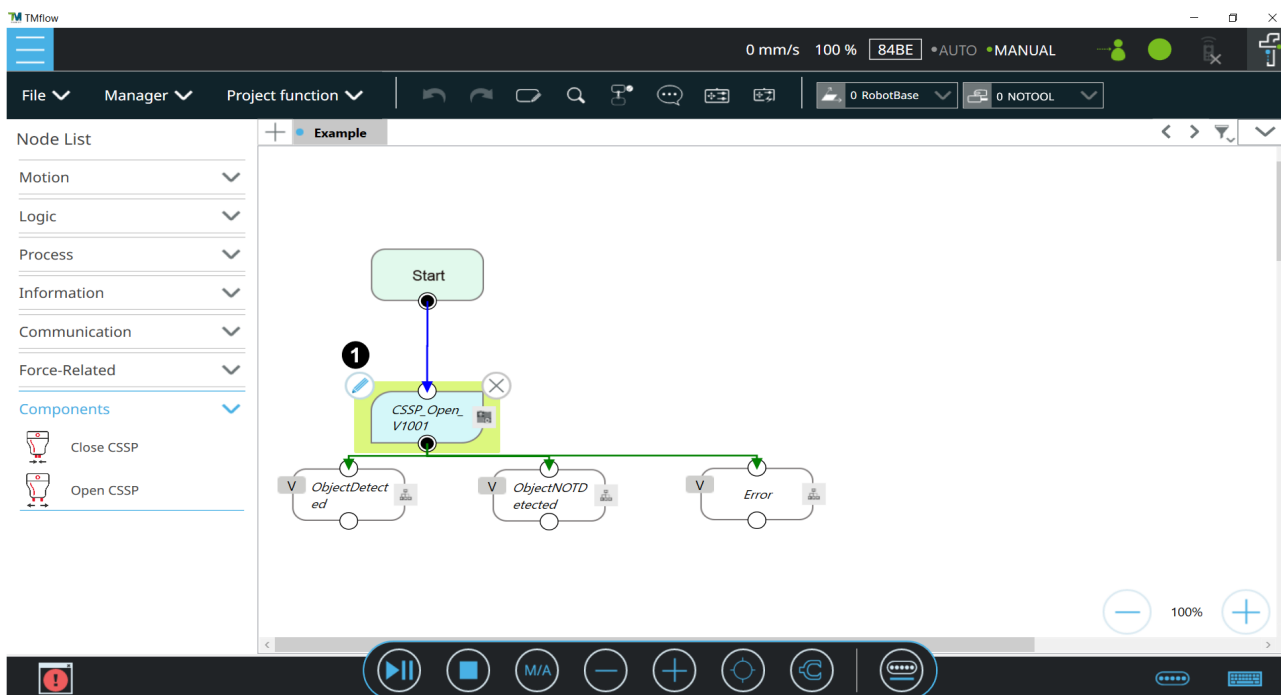

Figure 1.12: Project tab with "Open CSSP" component
After the previous step, you can see the the component in your Project tab, Fig.1.12 shows the "Open CSSP" component.
- (1) On the pencil icon (Fig.1.12);
- (2) Move the cursor on the right, it will appear a pencil icon and click on it.
- (3) Click on select;
- (4) Finally the component variable are showed, you can modify them by clicking on the pencil icon.